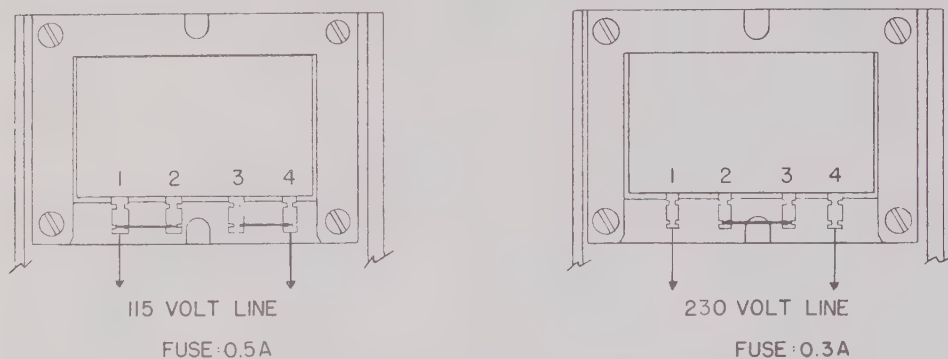

FIG. 2-2 CONVERSION TO 230V AC LINE OPERATION
2-6 This power supply is normally shipped for operation on a nominal 115V AC, single phase line. If 230V AC operation is desired, the transformer primary link connections must be changed as shown in Fig. 2-2 below. For either line voltage, the input connections must be made to terminals (1) and (2) on the rear barrier strip. If a three-wire line cord is used, the third wire (AC ground) must be connected to terminal (3).